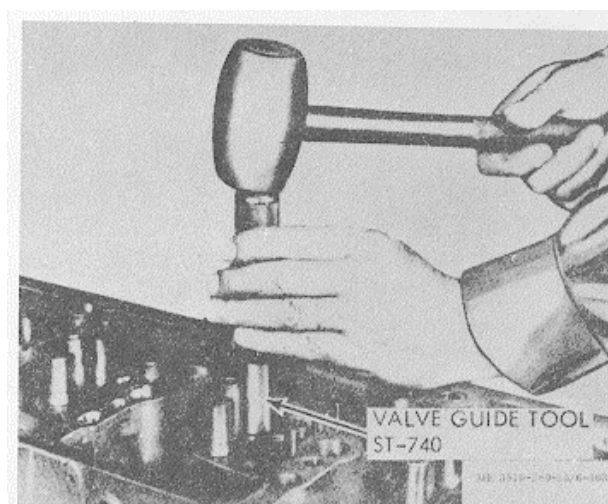

Figure 3-157. Valve
(1) Install new guides with arbor press and ST 740 valve guide drive, figure 3-157.
(2) If proper valve guide mandrels are not available, press guides into head to obtain protrusion above head surface as listed in table 2-2.
(3) Most valve guides will not require reaming. Insert valve into guide and check for freedom of movement, or check guide with small bore gage to determine if guide bore is too small.